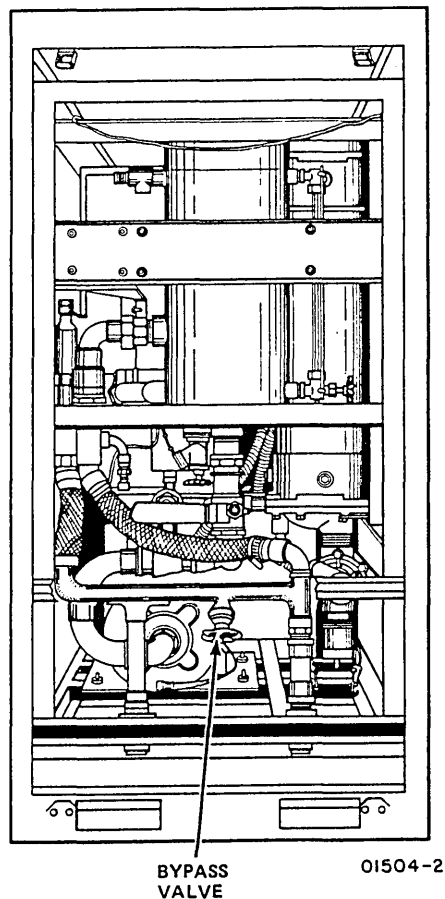

Figure 3-19. Bypass Valve on 102-L/min (27-gal/min) Unit (Side)
- ___ 3. Close bypass valve on side of water cooling unit (figure 3-19) by turning it fully clockwise.